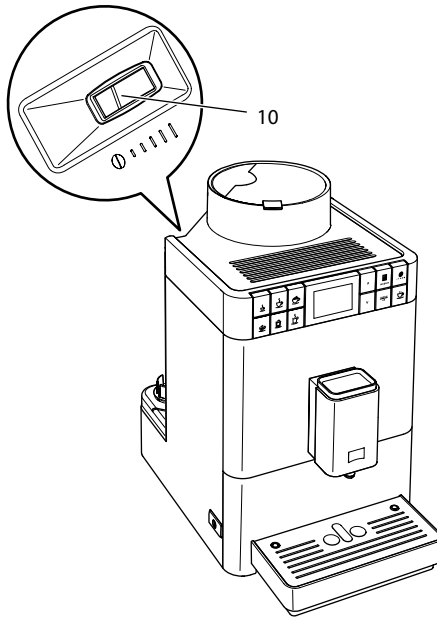

Fig. 16: Lever for setting the grinding fineness
- » The "Grinding fineness adjustment" lever (10) is visible on the housing.
2. Move the lever to the left or right as shown on Fig. 16.